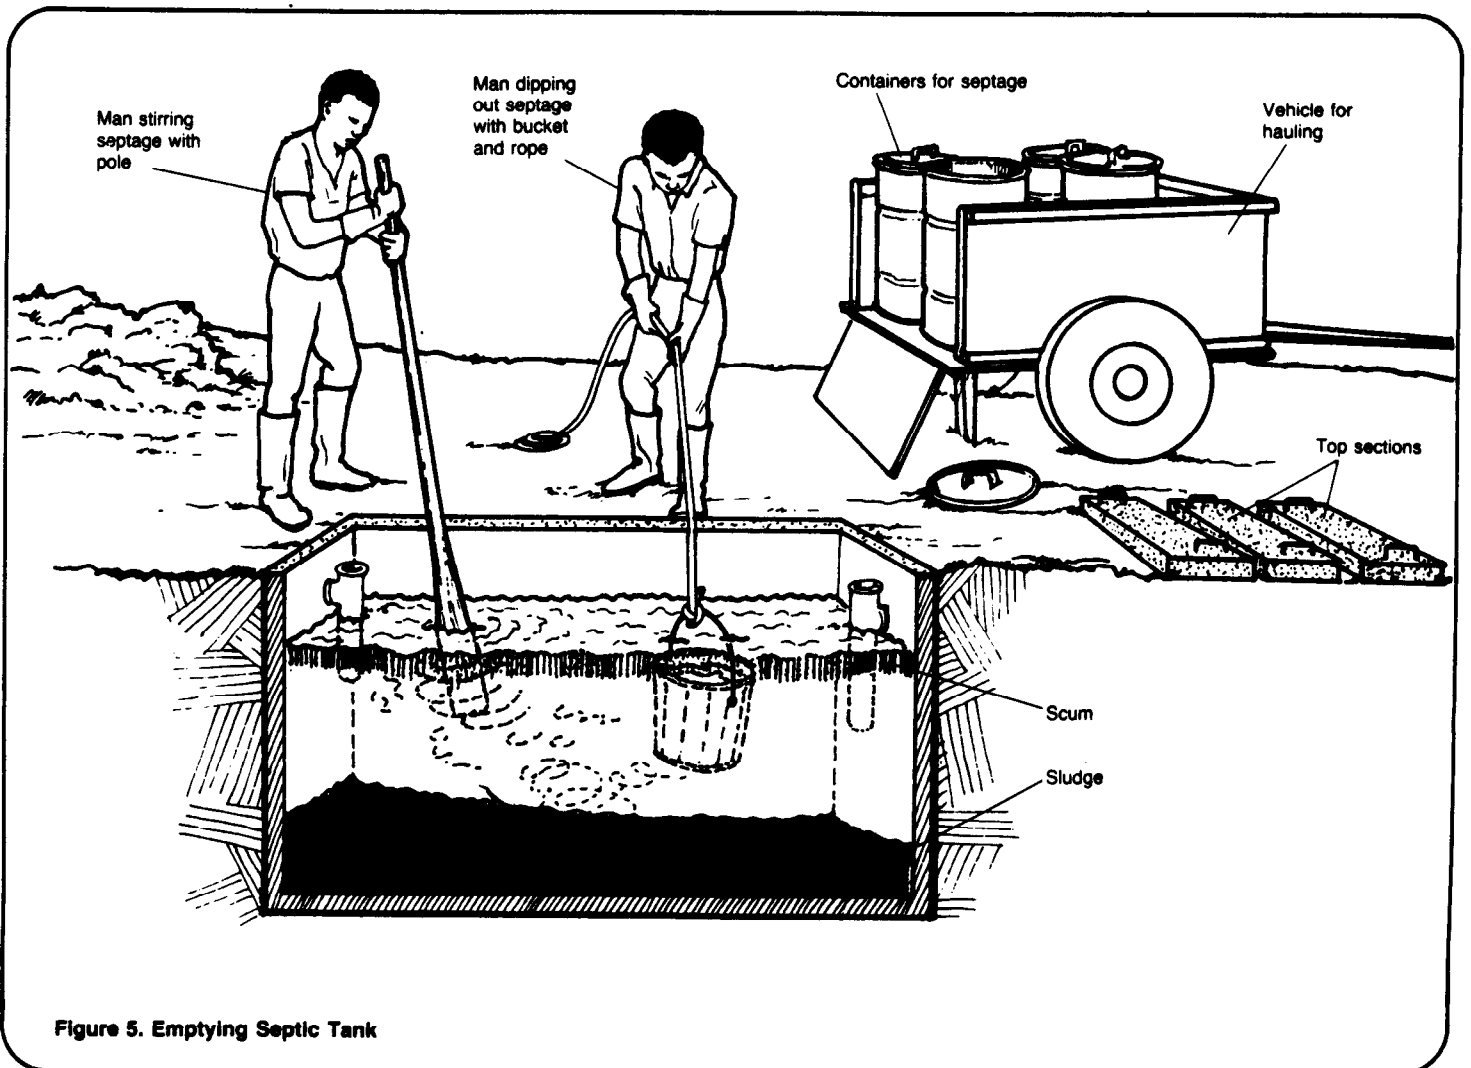

Figure 5. Emptying Septic Tank
4. Begin dipping out the septage with a bucket tied to a rope and emptying the septage into the containers as shown in Figure 5. Have a worker break up the scum layer and continually stir the septage with a shovel or pole. This will bring sludge off the bottom and leave less to be shoveled out later.